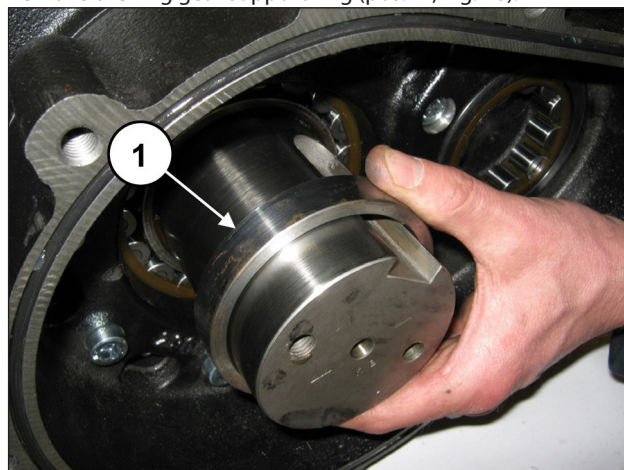

Fig. 16
Remove the ring gear support ring (pos. ①, Fig. 16).